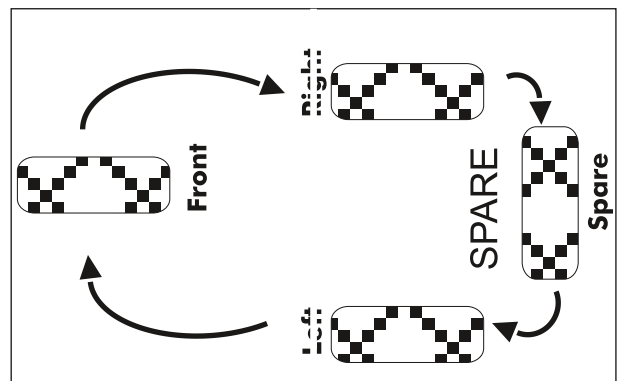

Fig. 2.115
- For tyre rotation follow the sequence shown. (Fig. 2.115)